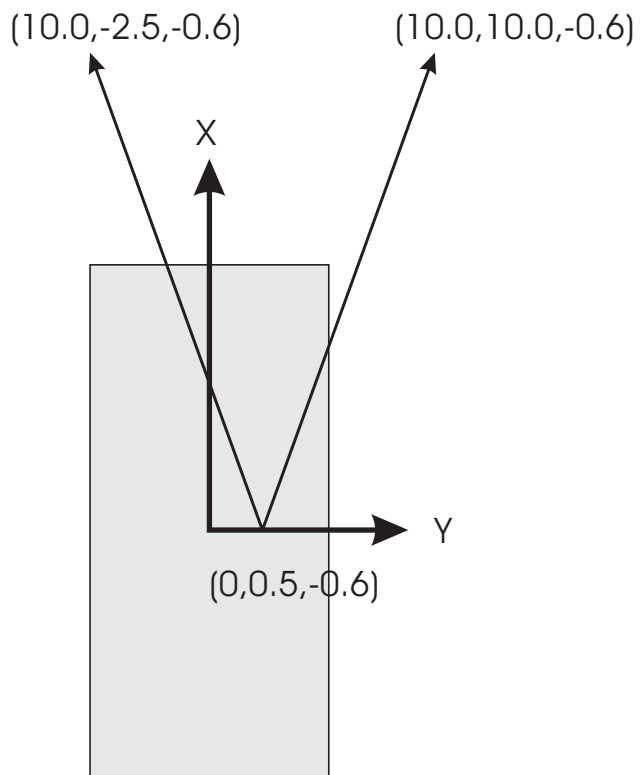

Figure 5-10 Diagram shows the relationship between the camera position and picture center coordinates.
*NOTE: These coordinates are also relative to the Ford Escort, and define a view angle looking forward and to the left, as shown in Figure 5-10.*